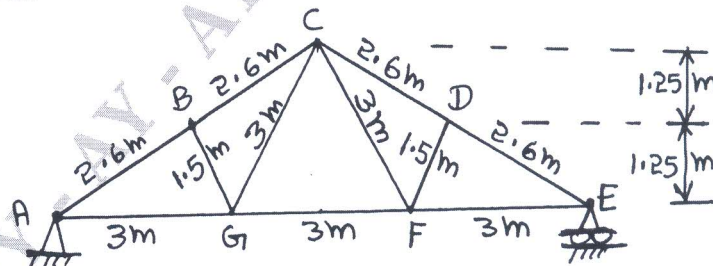

Fig.Q.3
- 3 Design the top chord, bottom chord, main sling member and support joint of a roof truss with its geometry as shown in Fig.Q.3. The analyzed forces in various members due to dead load, live load and wind load is furnished in Table Q.3. Determine the maximum design forces in the members due to various combination of loads with partial safety factors as per IS-800. Use 18mm diameter bolts of grade 4.6 for all the connections. The cross section dimension of the supporting reinforced concrete columns at the ends are  $230\text{mm} \times 300\text{mm}$  with 300mm edge placed parallel to plane of the truss. The design must comprise of all the necessary checks and write a neat sketch of design details. M20 grade concrete is used in the supporting columns.